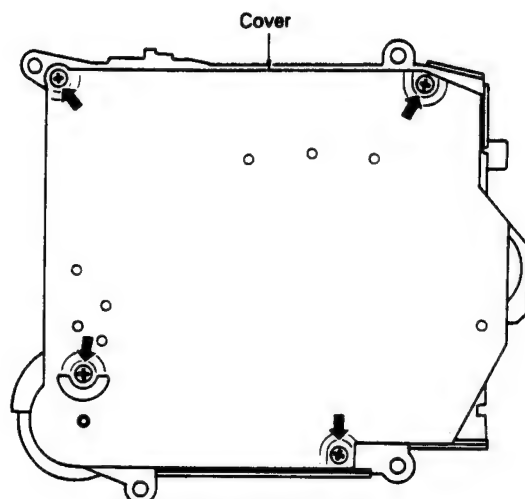

Fig. 1
1. Remove the four screws and the cover. (Fig. 1)